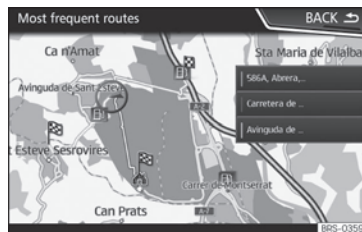

Fig. 226 Predictive navigation
- On the main screen of the Navigation menu, in the pop-up window, press the **Frequent routes** button. To display frequently followed routes press the **Show on map** button >>> **Fig. 226**.